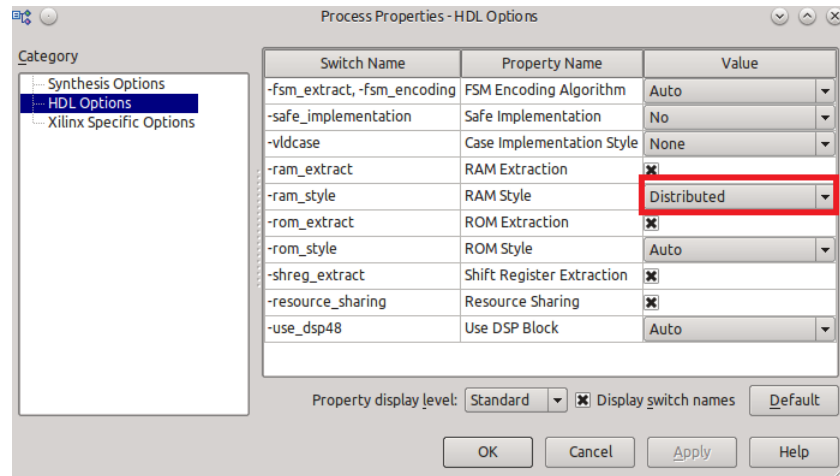

Figure 2.8: DUT RAM Style
- (c) In the Preprocess Properties window, select HDL Options and select "Distributed" for the RAM Style property (See Fig 2.8).